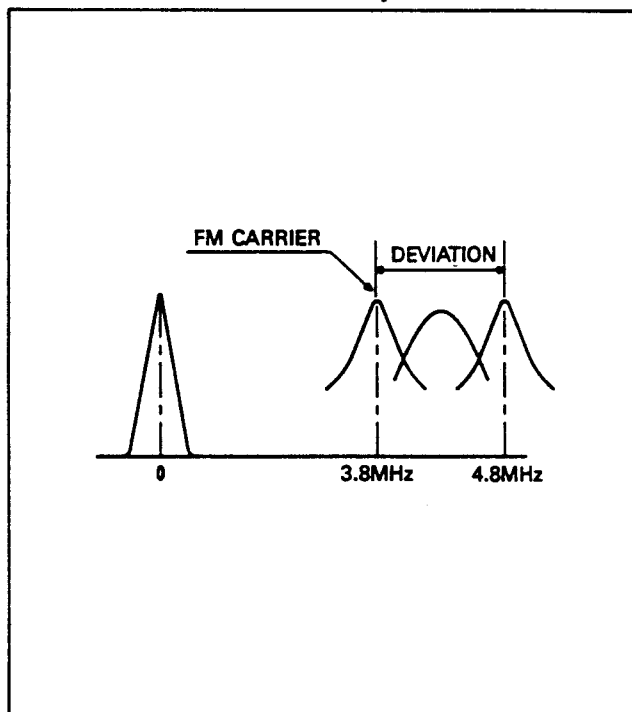

Fig. 10 FM Carrier & Deviation Adjustment
- 6) And then adjust the Deviation Control (VR0305) so that the frequency is $4.8\text{MHz} \pm 0.1\text{MHz}$ for the 1MHz deviation. (See Fig. 10).